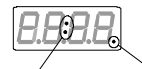

Fig. 10 Control output value Set point
- Push FUNC key again, the display will show the operative or final set point (as set for the "SP.dS" parameter), the decimal point as shown in Fig. 10 is lit.
- Push FUNC key again, the display will show the control output value, the two points as shown in Fig 10 are lit. The value of the MAIN control output is shown on the two most significant digits, while the SECONDARY control output is shown on the two least significant digits.